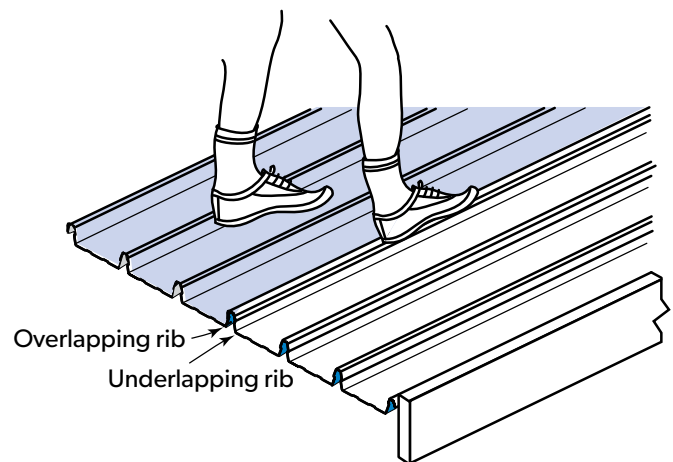

Figure 7
12. Fully engage the two sheets along the overlapping rib. You can do this by walking along the full length of the sheet with one foot in the centre pan of the previous sheet and the other foot applying vertical pressure to the top of the interlocking ribs at regular intervals. It is recommended that you don't walk in the unsupported pan beside the underlapping rib. (Figure 7)